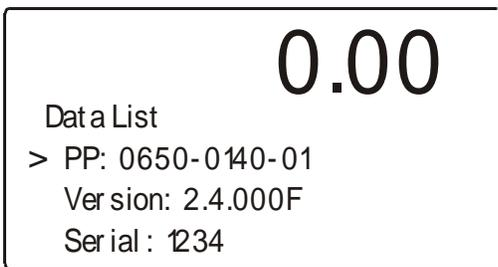

FIG. 3-19 TEST DATA DISPLAY/PART NUMBER/ PROGRAM VERSION
- Step 4. Press the down arrow button until the next three parameters appears. (See Fig. 3-19)